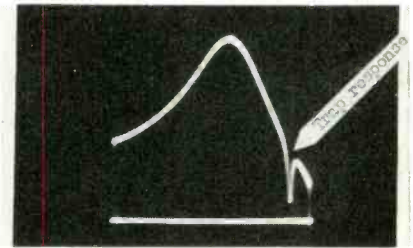

Fig. 5—Typical single IF response on a 15 mc sweep.
A. Fig. 5 shows a typical single *if* stage response, displayed on 15-mc sweep. Note that the bandwidth is large; in this example the bandwidth (measured between the half-voltage points) is greater than 10 mc. In other cases, the bandwidth may be less, perhaps 5 mc. But substantial bandwidth is charac-